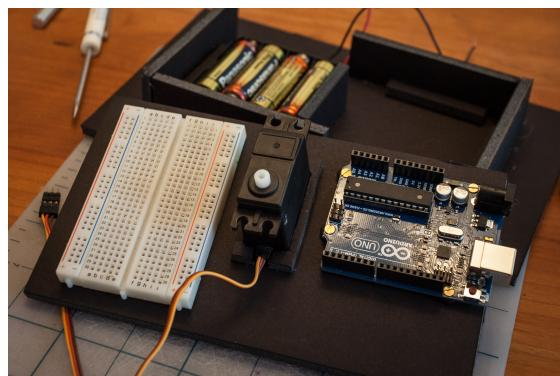

Figure 7-2 The mounting board showing the servo cozy and components
7. Mount the mini breadboard on the opposite side of the servo, approximately centered in the available space. See Figure 7-2.